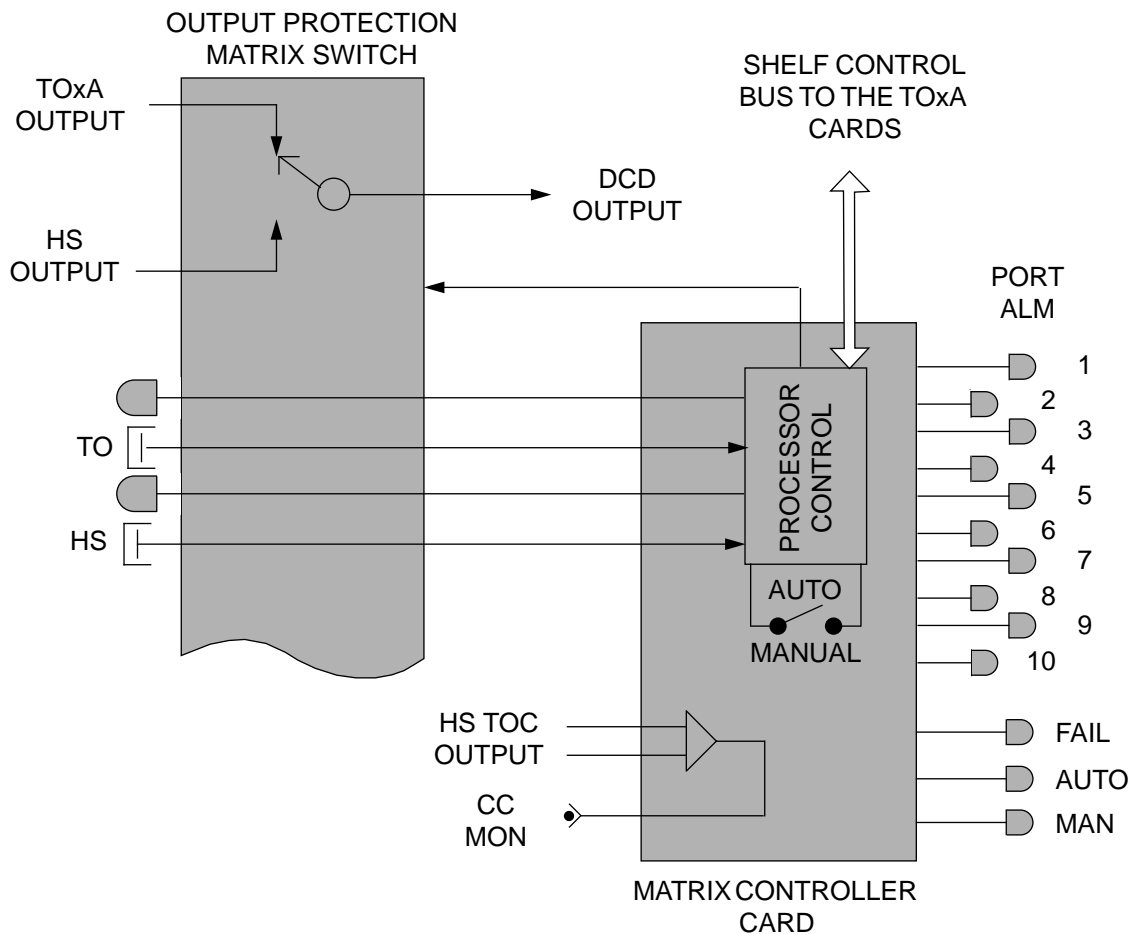

Figure 19. MCA and MCA-2 Card and Output Protection Matrix
4.86 The Synchronous Clock Insertion Unit (SCIU) card (Figure 19) is an elastic buffer that synchronizes an incoming or outgoing DS1 facility with an external timing source. The SCIU isolates the synchronization of a DS1 circuit while inserting office timing. The SCIU card interfaces a bidirectional DS1 signal and provides retiming in the A direction while passing the DS1 through in the B direction.